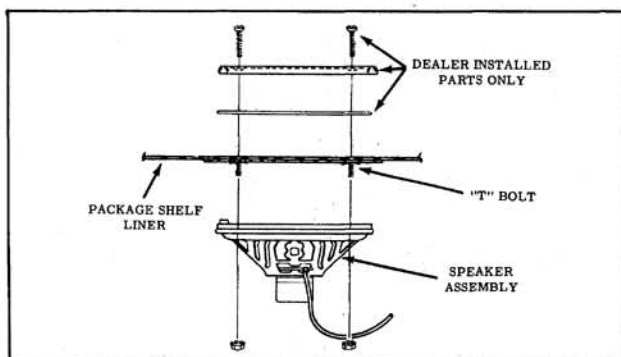

Fig. 12-25 Rear Seat Speaker
2. Remove four mounting locknuts while supporting speaker to prevent it from dropping. (Fig. 12-25)